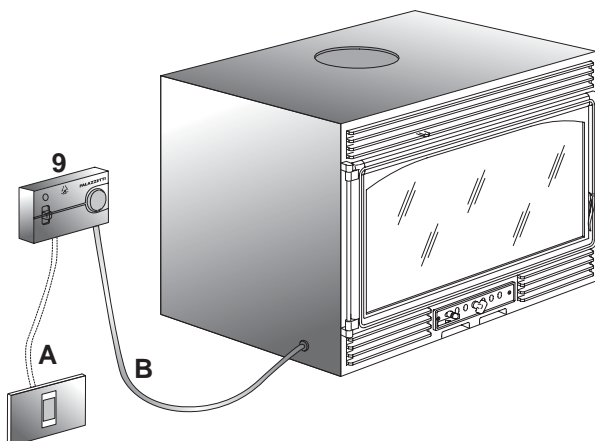

Fig. 6.3
**6.3 CENTRALE DE CONTRÔLE DES VENTILATEURS (OPTION) (FIG. 6.3)**
**6.3 CENTRALITA DE CONTROL DE LOS VENTILADORES (OPCIONAL) (FIG. 6.3)**